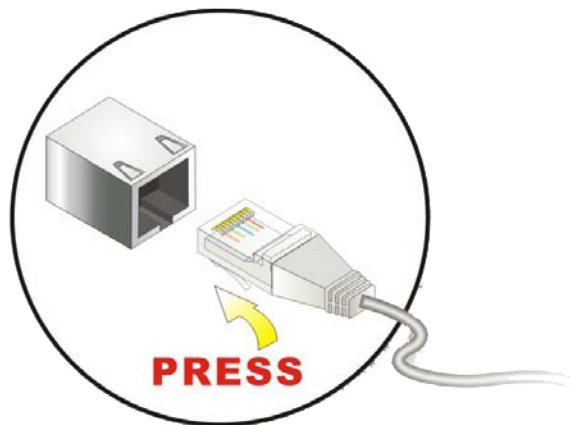

Figure 5-16: LAN Connection
Step 2: Align the connectors. Align the RJ-45 connector on the LAN cable with one of the RJ-45 connectors on the 3308470. See Figure 5-16.